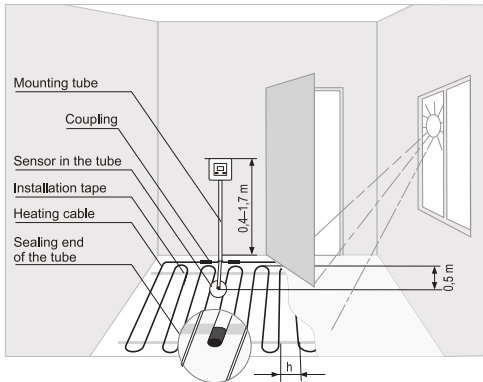

Figure 1. Mounting the thermostat and «warm floor» system
- fix the thermostat in the mounting box. To this a front frame must be removed by slipping it from the side with screwdriver inserted into the slot (Fig.1). Put the thermostat in the mounting box and tighten the mounting screws.